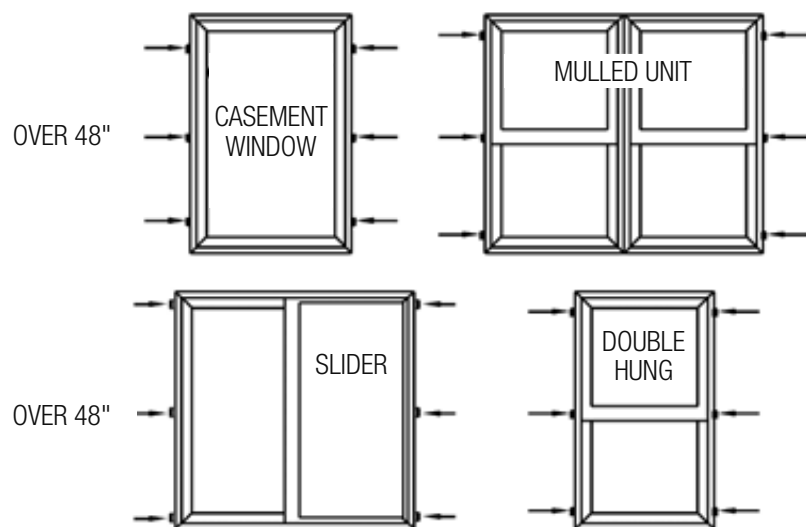

FIG. 14
- J) Check the unit for square using diagonal measurements. Shim window to ensure the unit is square. Casement units over 48" in height must have shims placed at the center to prevent bowing of jambs. **Note:** Use flat shims. (Fig. 14)
- K) **For double hung units: To ensure proper window operation and performance, it is critical to shim at the check rail to ensure the frame widths are equal at the top, center and bottom of the unit. (Fig. 14)**
- M) Make sure jambs, head and sills are straight. Additional shimming may be required. (Fig. 14)